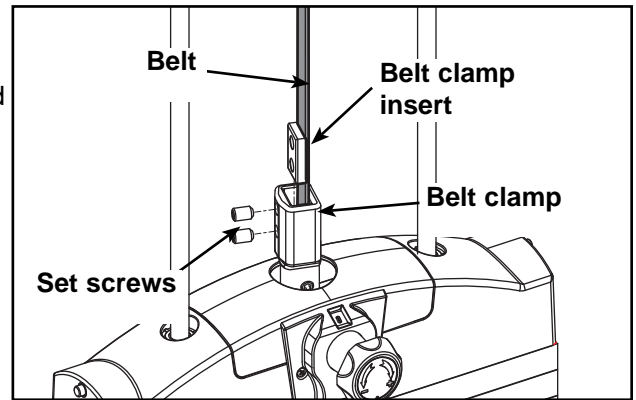

Figure 10
- E. Pull belt tight and secure belt to clamp with the two set screws. **NOTE:** Torque set screws 300-350 in./lbs. See Figure 10.